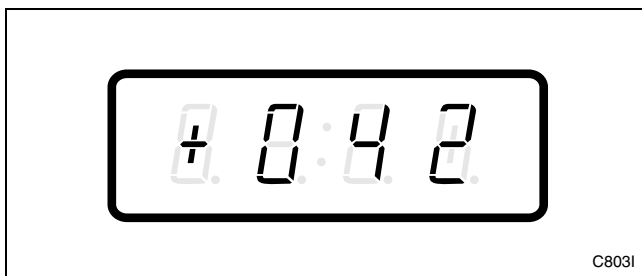

Figure 157
3. Press the DELICATES (+) or the COLD (-) keypad to scroll through the programmable options until “+042” appears in the VFD. Refer to *Figure 157*.